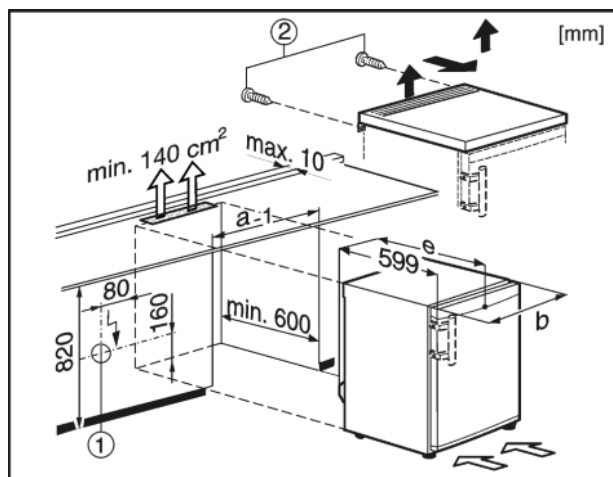

Fig. 9
With such installations, the plug Fig. 9 (1) must not be located behind the appliance and must be easily accessible.
- Remove the screws Fig. 9 (2) from the rear side.